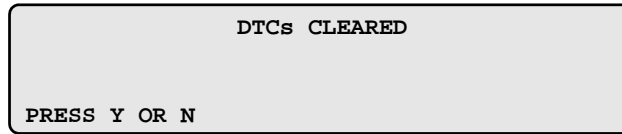

Figure 4-37 Typical ABS codes cleared screen message
4. The DTCs CLEARED screen appears (Figure 4-37)